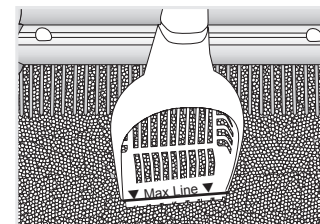

Fig. 4
- Use only hard clumping litter.** Do not use non-clumping litter, crystal or pearl-like litters. Fill LitterMaid® litter box to **just below** the "Max Line". Do not overfill unit or it will not operate properly. Use the fill line on the LitterMaid® scoop and rake cleaner to check that litter is at the correct level in center of unit (Fig. 4).